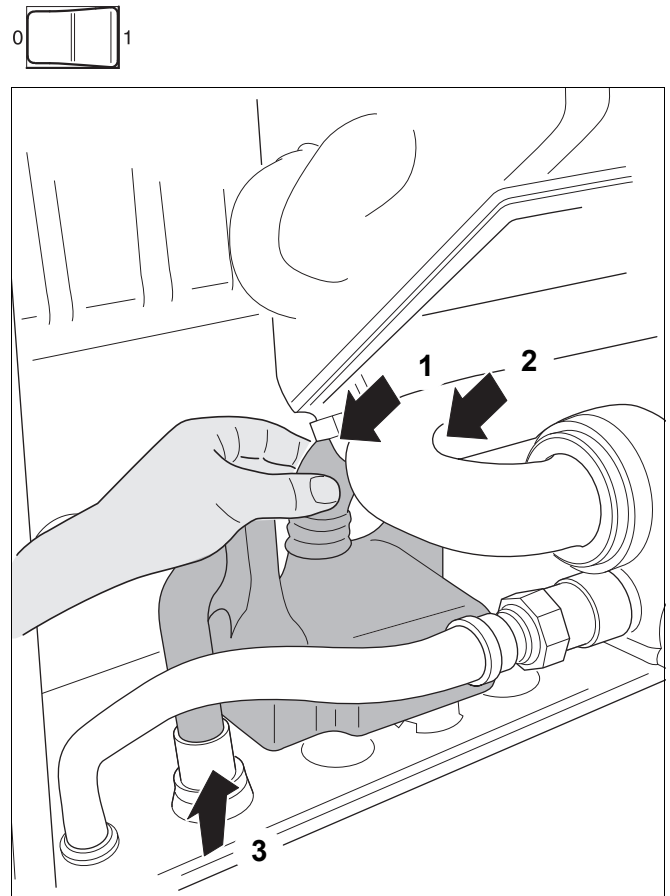

Fig. 48 Condensate trap
- Pull the condensate trap from the condensate plate (fig. 48, pos. 1).
- Pull the internal condensate bypass pipe from the condensate trap (fig. 48, pos. 2).
- Loosen the condensate trap from the connection (fig. 48, pos. 3) and remove it.